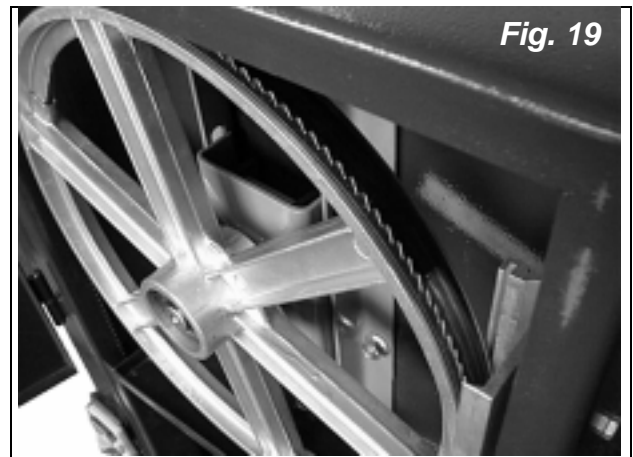

Fig. 19
2. Open the top and bottom bandwheel doors by turning the door locks (A) with a flat bladed screwdriver.
3. Remove the Rip fence guide (B) from the front of the table by releasing the 4 winged screws (C).
4. Release the blade tension by turning the large knob (D).
5. Remove the sawblade (E) by feeding it through the slot in the table, upper blade guides and guard and the slot in the spine of the machine taking care not to cut yourself, wear gloves if necessary.
7. Re-tension the new blade and check the blade tracking by turning the upper wheel by hand. The blade should run in the centre of the bandwheel. (See Fig. 19)
The blade should run in the centre of the bandwheel as shown in *Fig. 19*.